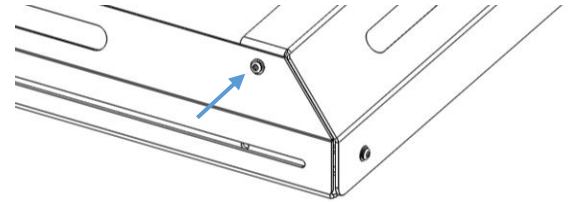

Figure 14: Back Panel to Side Rail Assembly
8. Secure the Back Panel to the Side Rail as shown in Figure 14 on both sides with the #10-32 x 3/8" bolts.